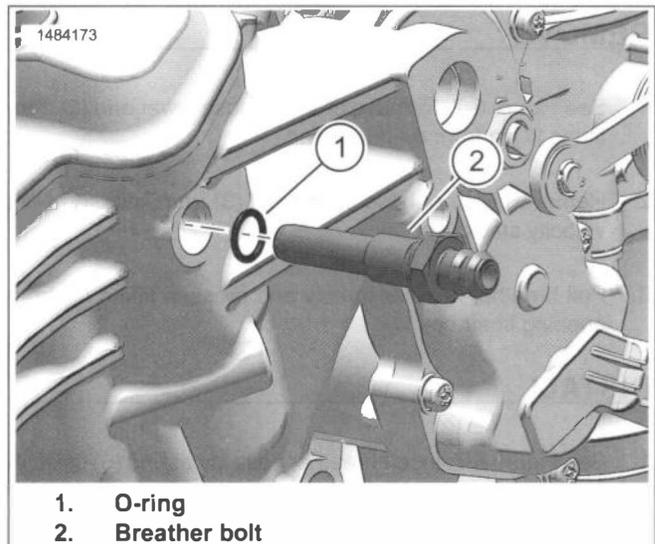

Figure 6-6. Breather Bolt
- a. See Figure 6-6. Remove breather bolt (2).
- b. Remove O-ring (1). Discard.
- a. See Figure 6-6. Lubricate **new** O-ring (1) with fresh oil.
- b. Install O-ring on breather bolt (2).